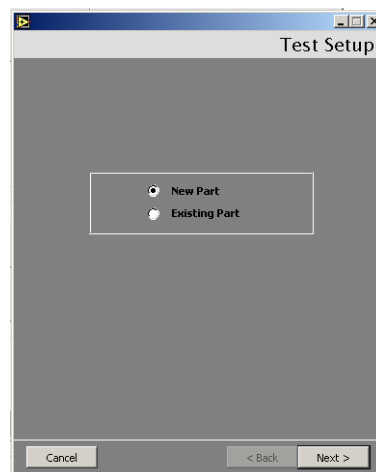

Figure 2-9 Test Setup
1. Click **Multi Part Tester** on the *Home* screen and Figure 2-9 appears.